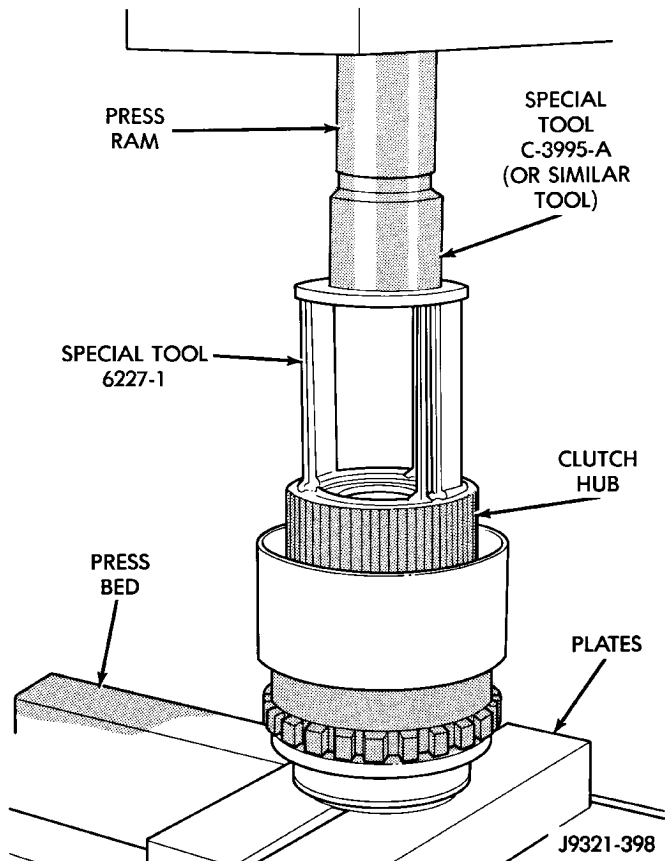

Fig. 200 Geartrain Mounted In Shop Press
(1) Mount geartrain assembly in shop press (Fig. 200).
(2) Position Compressor Tool 6227-1 on clutch hub (Fig. 200). Support output shaft flange with steel press plates as shown and center assembly under press ram.
(3) Apply press pressure slowly. Compress hub and spring far enough to expose clutch hub retaining ring and relieve spring pressure on clutch pack snap ring (Fig. 200).